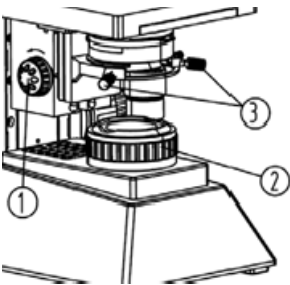
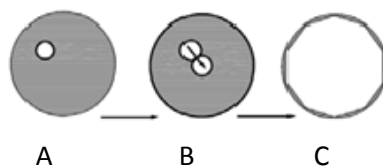

Fig.13 Centering the Condenser
Fig.14 Field Diaphragm Light spot
- 1) Move condenser all the way up by turning the condenser knob ① (Fig. 13). Bring the 10X objective into light path.
- 3) Rotate the field diaphragm ring ② counterclockwise to close the diaphragm. You should see the narrow light spot in the field of view (Fig. 14-A). Slowly move the condenser down until the light spot is in sharp focus.
- 5) Use the centering screws ③ (Fig.13) to bring the light spot to the center of the field of view if necessary. (Fig. 14-B)
- 6) Slowly open the field diaphragm. The light spot should remain centered in the field of view (Fig.14-C).
The field diaphragm (KoeHLer Iris) can restrict the light coming from the illuminator to the condenser. This will help to block the scattering of light and improve contrast. This tool is particularly helpful when viewing unstained specimens, or using Phase Contrast. Rotate ring ② (Fig.13) as necessary observing contrast change.